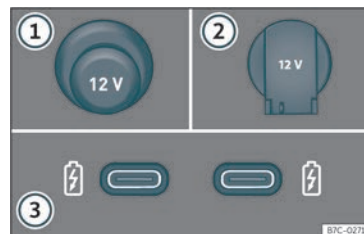

Fig. 127 Vehicle 12 volt socket.
12 volt power socket»»» Fig. 127 :
- Remove the cover from the socket, located on the centre console»» Fig. 127 ①.
- Lift the power socket cover»» Fig. 127 ②.